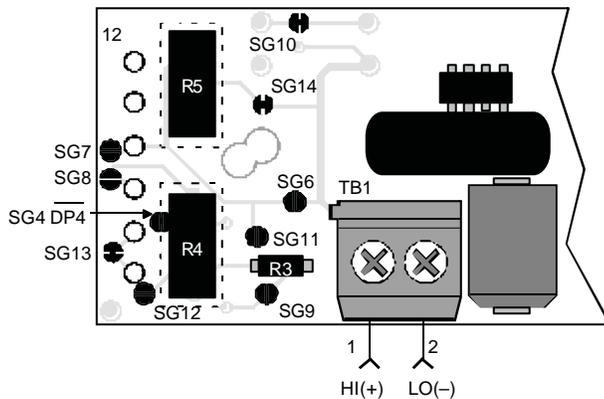

Figure 3. R4 and R5 Installation
**2. Span (Gain) and Zero (Offset) Adjustments** (See Figure 3): Locations are included on the DMS-EB-AC/DC to add user-supplied potentiometers R4 and R5. Recommended values for these two components are as follows: R4: 2KΩ, 10-20-turns; R5: 50KΩ, 10-20 turns. Vishay's T93YA series potentiometers are suitable for this application. Make sure to use only RoHS-compliant components and solders when making modifications to DMS-EB-AC/DC.